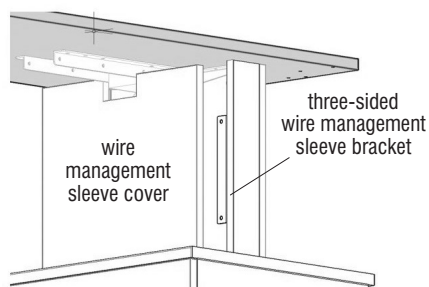

Figure 9
5. Align tree lock plugs on the wire management sleeve cover with the mounting holes on the sleeve bracket and press to connect (Figure 9).